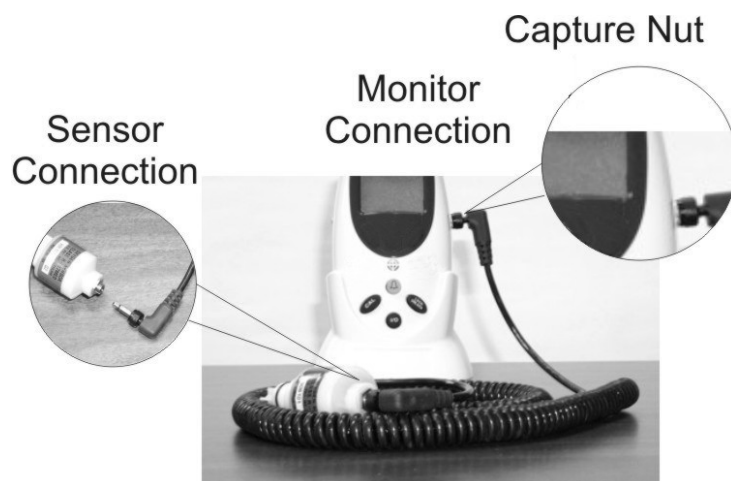

Figure 2-2: Sensor Cable Connection to Analyzer
| Figure 2-2: Sensor Cable Connection to Analyzer | 6 |
3. Plug the other end of the cable into the receptacle located on the side of the unit and secure it using the capture nut. See Figure 2-2.